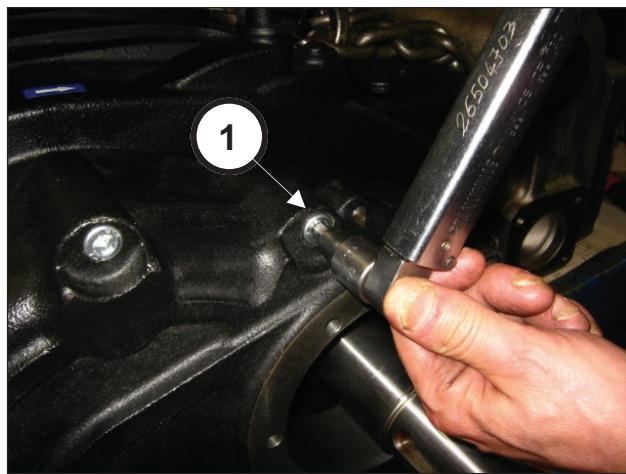

Fig. 86
Assemble the reduction gear cover (pos. ①, Fig. 85) and fasten it with 8 M10x50 screws (pos. ①, Fig. 86).